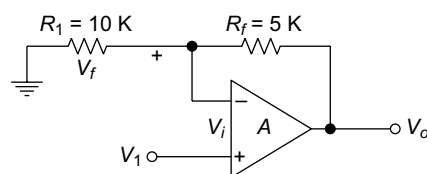

Fig. 2.53
10. The feedback factor of the circuit is shown in Fig. 2.53 is